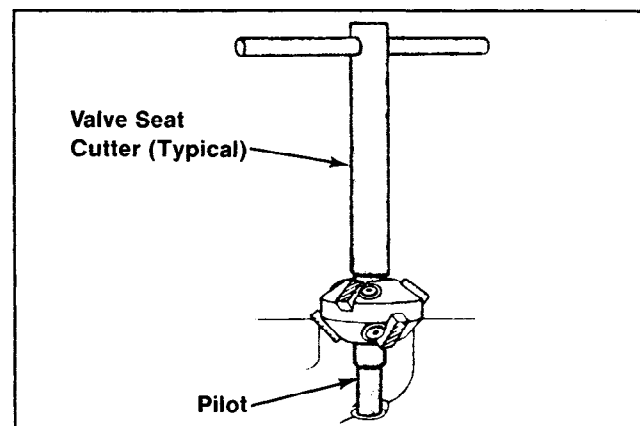

Figure 11-9. Standard Valve Seat Cutter.
3. Use a standard valve seat cutter (see Figure 11-9) and cut seat to dimensions shown in Figure 11-5.